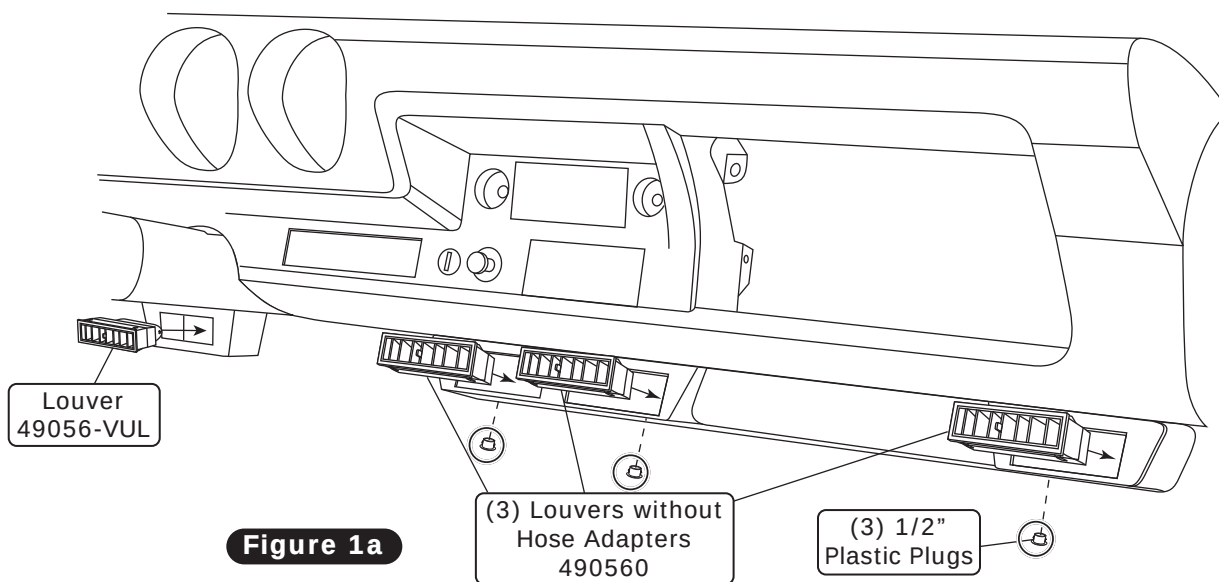

Figure 1a
2. Apply a 1/4" bead of silicone around the mating surface of the kick panel cover as shown in Figure 1a, below.
2. Install the louvers into the housing (See Figure 1a, below).